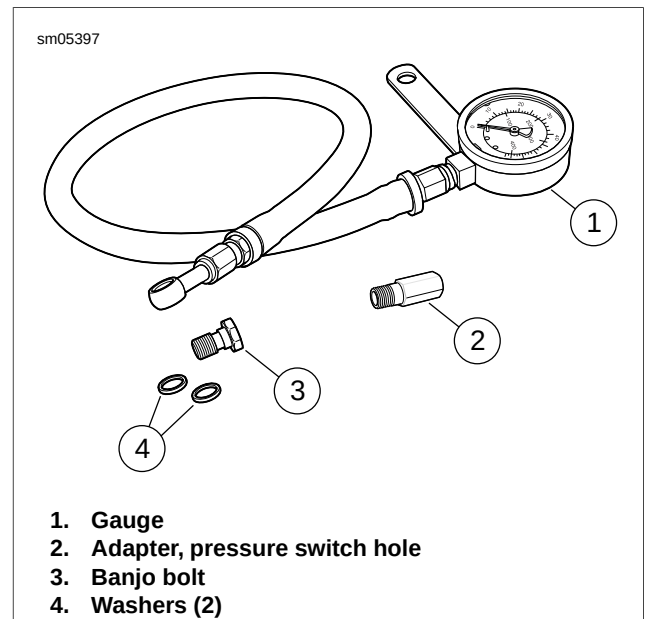

Figure 3-102. Oil Pressure Test Gauge Set
2. See Figure 3-102. Install adapter (2) from OIL PRESSURE GAUGE SET (Part No. HD-96925-52B) in oil pressure indicator lamp switch mounting hole. Tighten adapter snugly. DO NOT OVERTIGHTEN.